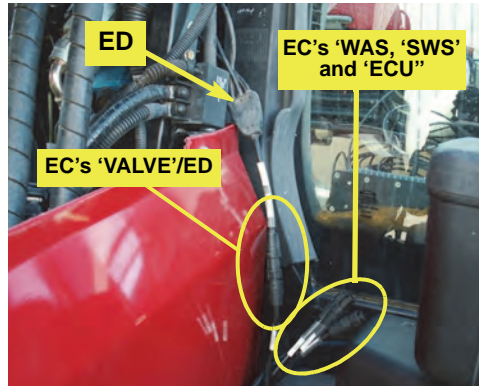

Figure 3b: Valve cable connected between factory autosteer valve and steering controller and other controller connectors (WAS, SWS and ECU)
- b. Connect valve cable **ED** to **EC**'s connector labeled 'VALVE' (Figure 3b).